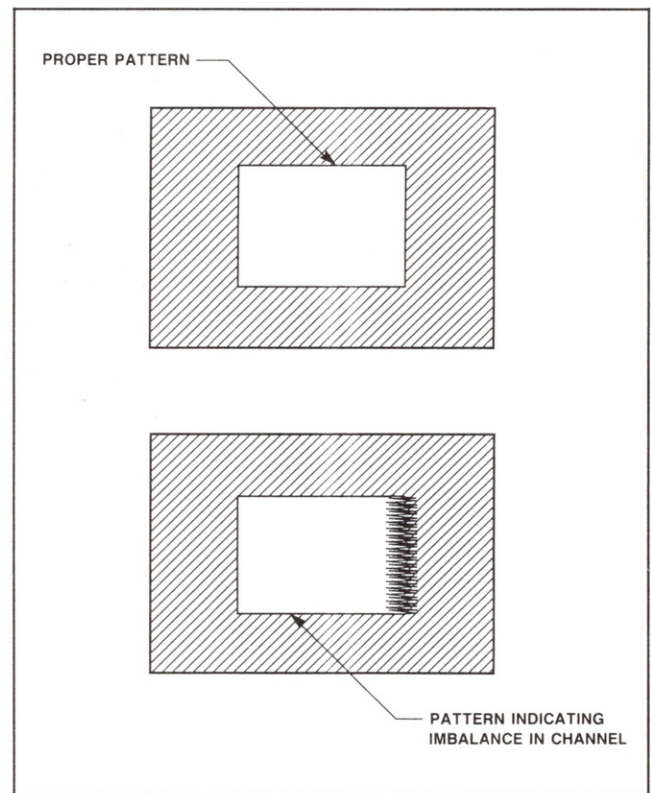

Figure 1
4. A balanced channel will show the proper pattern, as shown in Figure 1. An imbalanced channel will show a sweeping blur at the right edge of the pattern. If any or all of the red, green or blue channels show a blur, then proceed with steps 5 through 9.